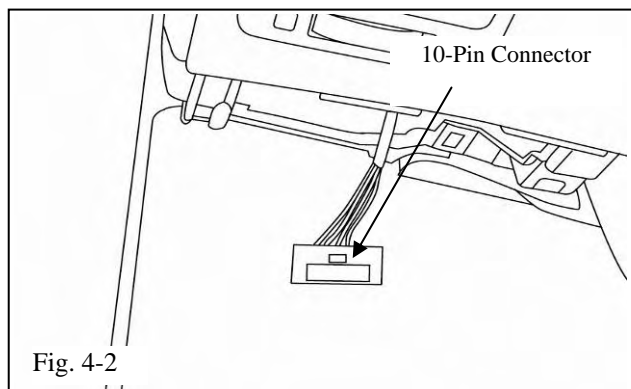

Fig. 4-2
- (b) Locate the disconnected 10 pin Outer Mirror Switch connector. (Fig. 4-2)